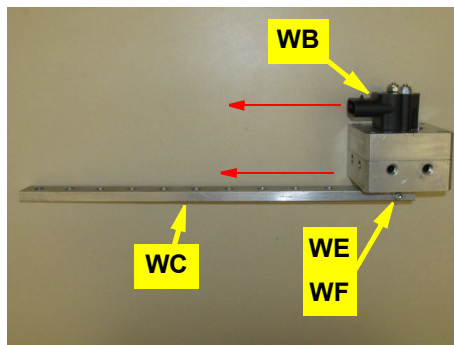

Figure 1c: Attached WAS arm
- c. Using hardware **WE** (nut) and **WF** (screw), attach the cut WAS arm **WC** to the WAS assembly. The arm should be mounted in the same direction as the WAS wire connector **WB** (Figure 1c).